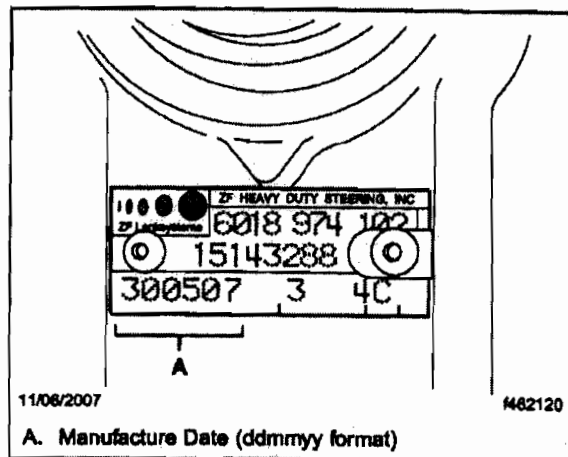

Fig. 1, Data Plate Identification
3. Check the date code on the data plate of the steering gear. See Fig. 1.